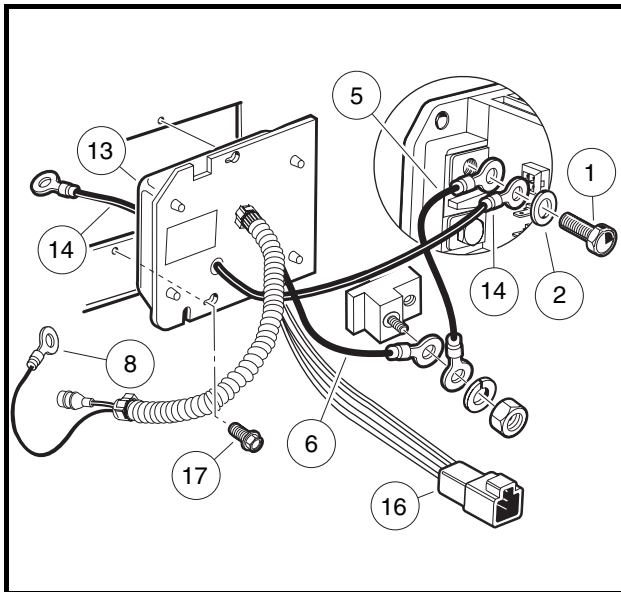
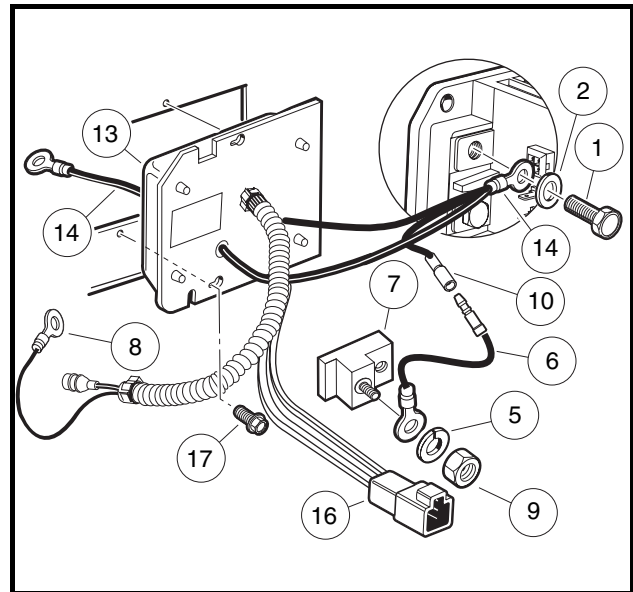
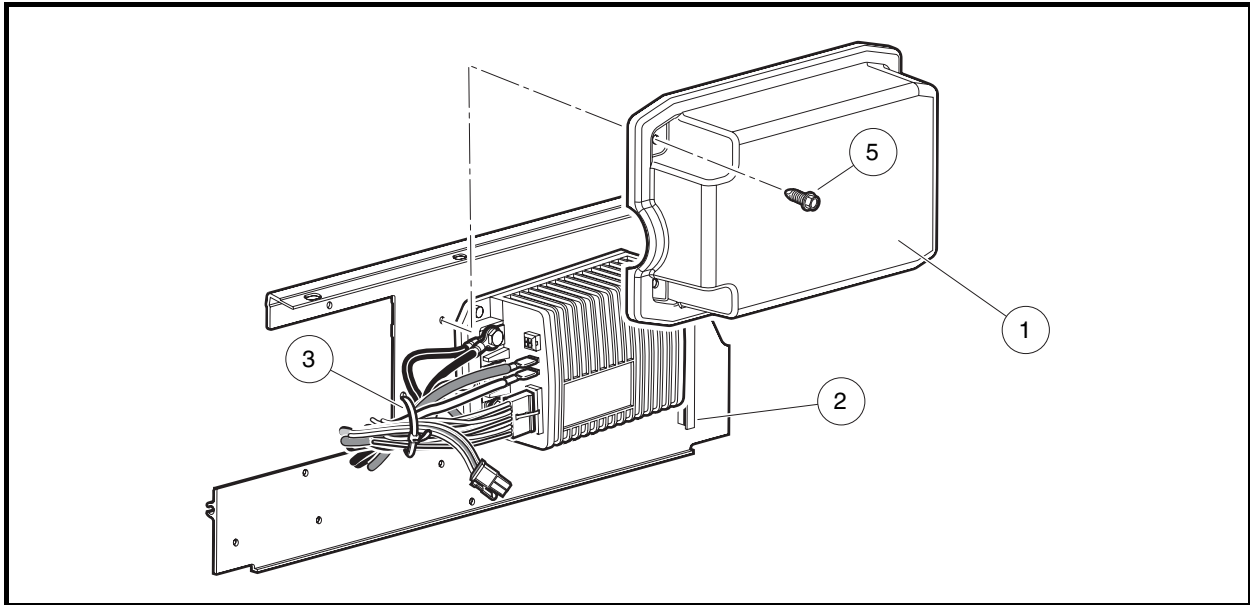

Figure 23-10 Early Onboard Computer
Figure 23-11 Later Onboard Computer
Figure 23-12 Speed Controller Cover
- Remove rear body access panel and unplug the six-pin connector (16) at the OBC (**Figure 23-10, Page 23-11**) or (**Figure 23-11, Page 23-11**).
- Remove the two screws (5) from the speed controller cover (1) and remove the cover (**Figure 23-12, Page 23-13**).
- Remove the wire tie (3) securing the speed controller wires to the mounting plate.
- Remove black 6-gauge wire (14) from the speed controller B- terminal (**Figure 23-10, Page 23-11**) or (**Figure 23-11, Page 23-11**).
- Early OBC Only:** Remove the black 10-gauge wire (5) from the speed controller B- terminal and black 10-gauge wire (6) from the accessory mounting terminal (**Figure 23-10, Page 23-11**).
- Disconnect the black 10-gauge wire (8) at the charger receptacle.
10. Loosen, but do not remove, the two self-tapping screws (17) holding OBC to component mounting plate.
11. Slide OBC towards outside of vehicle and align heads of self-tapping screws (17) with the two holes in the OBC face plate. Pull OBC towards rear of vehicle and remove from component mounting plate.
3. Install the OBC onto the component mounting plate by aligning the two holes on the OBC face plate with two holes on component mounting plate. Slide OBC towards inside of vehicle and align heads of self-tapping screws (17) with smaller part of two holes in OBC face plate (**Figure 23-10, Page 23-11**) or (**Figure 23-11, Page 23-11**). Tighten screws to 60 in-lb (6.7 N·m). **See following NOTE.**
4. Secure the OBC wire harness (consisting of the black 10-gauge wire (8) and the gray wire fuse holder) to the I-beam with wire ties (**Figure 23-10, Page 23-11**) or (**Figure 23-11, Page 23-11**).
5. Connect the black 10-gauge wire (8) to the charger receptacle (**Figure 23-10, Page 23-11**) or (**Figure 23-11, Page 23-11**). Tighten to 23 in-lb (2.6 N·m).
7. **Early OBC Only:** Connect the black 10-gauge wire (6) and the black 10-gauge wire (5) to the accessory mounting terminal. Install the nut on the accessory terminal and tighten to 9 ft-lb (12.2 N·m) (**Figure 23-10, Page 23-11**).
8. Connect the black 6-gauge wire (14) (and black 10-gauge wire (5), if early OBC) to the speed controller B– terminal with the washer (2) and bolt (1) and tighten to 9 ft-lb (12.2 N·m) (**Figure 23-10, Page 23-11**) or (**Figure 23-11, Page 23-11**).
9. Plug the six-pin connector (16) from the OBC into the vehicle wire harness.
10. Install a wire tie (3) to tightly secure the speed controller wires to the component mounting plate (**Figure 23-12, Page 23-13**).
11. Place the edge of the speed controller cover (1) into the slot (2). Press the controller cover onto the component mounting plate over the speed controller and install the two screws (5) (**Figure 23-12, Page 23-13**). Tighten the screws (5) to 60 in-lb (6.8 N·m). **See following NOTE.**
3. Remove the two screws (5) from the speed controller cover (1) and remove the cover (**Figure 23-12, Page 23-13**).
3. Place the edge of the speed controller cover (1) into the slot (2). Press the controller cover onto the component mounting plate over the speed controller and install the two screws (5) (**Figure 23-12, Page 23-13**). Tighten the screws (5) to 60 in-lb (6.8 N·m). **See following NOTE.**